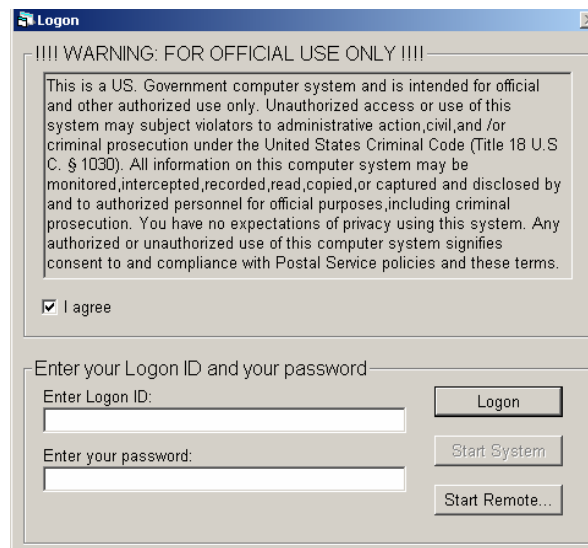

Figure 1-89. Logon Window
2. If not already logged on, log on to the IMS application as **SEC Technician** (Figure 1-89).